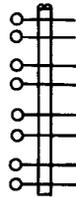

Fig. 9—240C Plug
- (c) **240C:** The 240C plug (Fig. 9) is used with the test jacks on step-by-step switches.